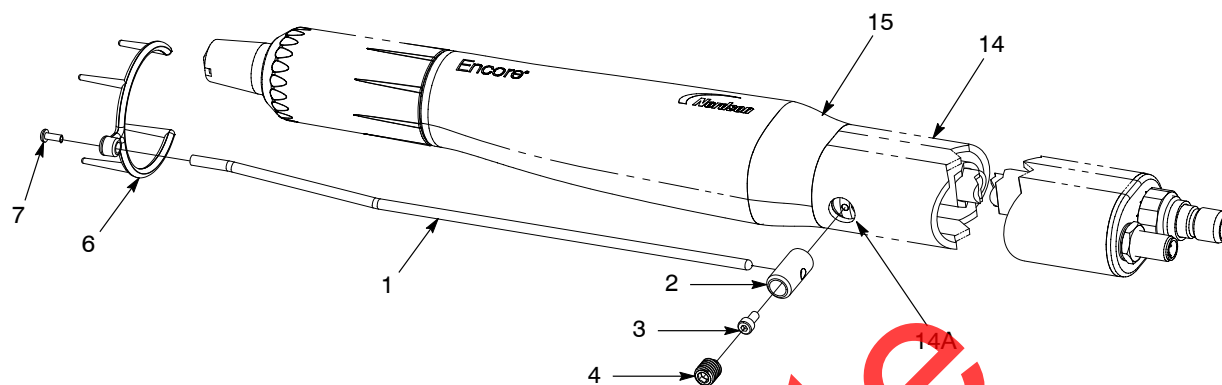

Figure 3 Ion Collector Installation – Tube-Mount Gun
9. See Figure 3. Remove the plug from the mounting hole (14A) if applicable.
10. Insert the post (2) through the mounting hole (14A) and secure it to the grounding plate in the rear body assembly (15) with the socket head